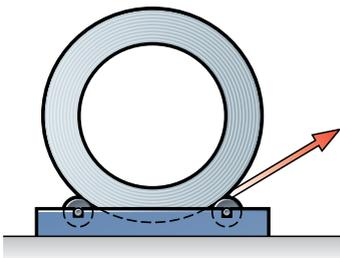

Figure 1
- The belt coil should be placed preferably on a roller type support as shown in figure 1.